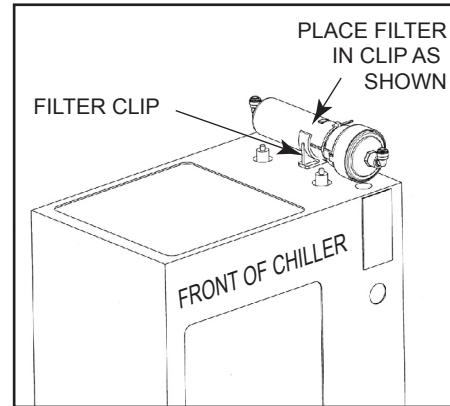

FIG 5
- Ⓐ SCREW FILTER CLIP TO UNIT IN LOCATION AS SHOWN IN FIG. 5 (SCREW PROVIDED)
- Ⓐ MOUNT FILTER TO CHILLER CASING (SEE FIG. 5)
- (A) MOUNT FILTER TO CHILLER CASING (SEE FIG. 5)